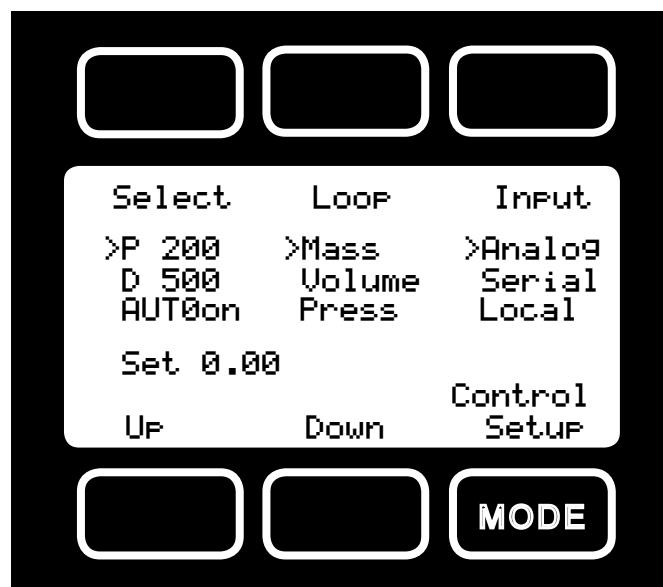

Figure 8. MC Series Control Setup Display
**Input** – MC Series Flow Controllers normally ship defaulted to analog control as indicated in Figure 8. To change how the set-point will be conveyed to the controller push the button in the upper right hand corner just above the dynamic label "Input" until the arrow is directly in front of the desired option. The controller will ignore any set-point except that of the selected input and it will remember which input is selected even if the power is disconnected.